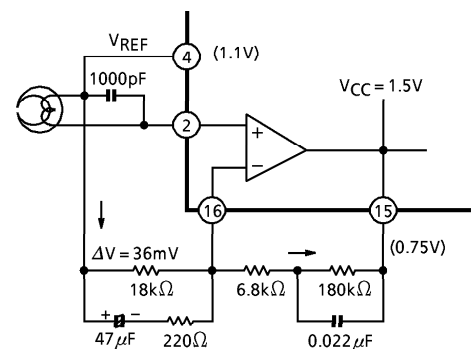

Fig.4 NFB terminal
The resistance of 18kΩ is advisable to be connected between NFB terminal (Pin⑯ and ⑩) and V_{REF} for using this IC. That is because NFB terminal is designed to have the off-set voltage (ΔV = 36mV) against each terminal (Pin ②, ③, ⑤ and ⑥). Therefore, the DC potential of the output terminals (Pin⑮ and ⑪) can be set at about V_{CC}/2 with the current produced by this off-set potential. (Fig.4)